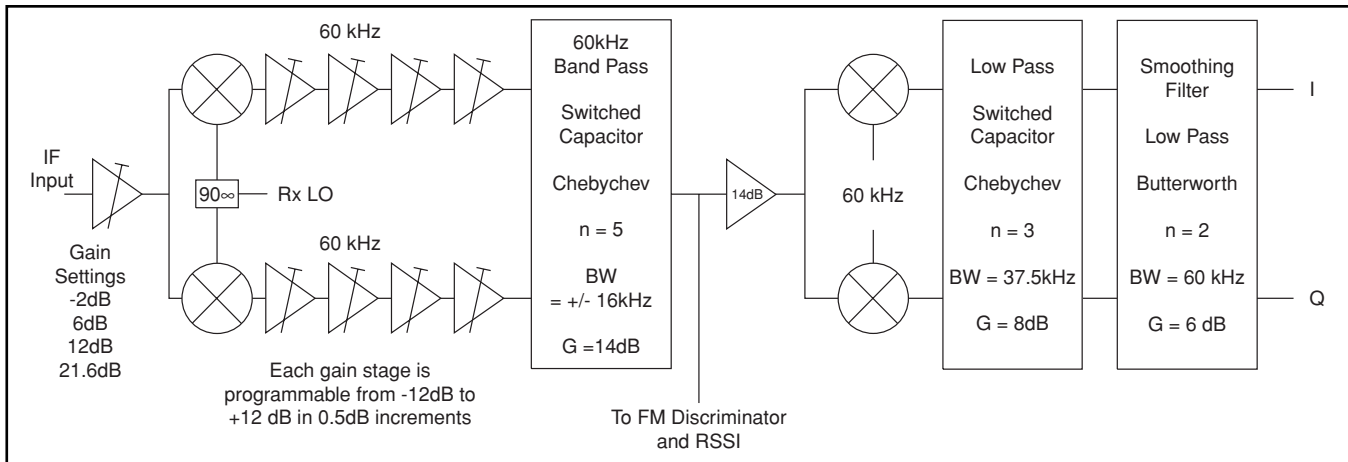

Figure 2 - Receive Path Block Diagram showing Gain Plan and Filters
6. These filter characteristics are for the 60kHz band pass filter in narrow band mode. This provides all the filtering in FM mode. There is additional filtering in I/Q mode provided by the baseband low pass filters. Details are shown in fig 2
Gain control is provided from an external analogue control signal. This signal is digitised by an on chip 8 bit analog to digital converter. The digital outputs are then used to control the amplifiers. Figure 2 shows the amplifier configuration in more detail. The preamplifier has 4 gain settings and there are four amplifier stages at 60 kHz each providing -12 to +12dB gain in 0.5 dB steps. The gain control range will be more than adequate for most TDMA applications. The digitally controlled amplifiers provide a highly accurate and linear control of gain. The conversion rate of the analog to digital converter is 45 kHz.
Following the bandpass filter the signal is mixed down to baseband I and Q signals which are output from differential outputs. There is additional baseboard filtering to remove spurious from the downconverters and clock breakthrough from the switched capacitor filters. Further detail of the MGCM02 receive path is shown in Fig 2. The baseboard outputs can be fed directly into analog to digital converters in a baseband circuit.